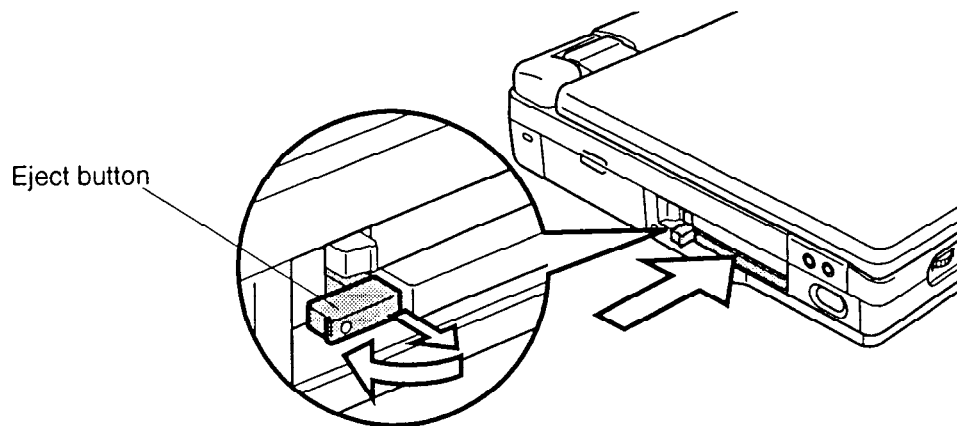

Figure 4-5 Installing the PC card
To install an optional PC card, follow the steps below and refer to Figure 4-5.
2. A pair of flaps protects the PC slot. Insert the PC card through these flaps as shown in Figure 4-5.